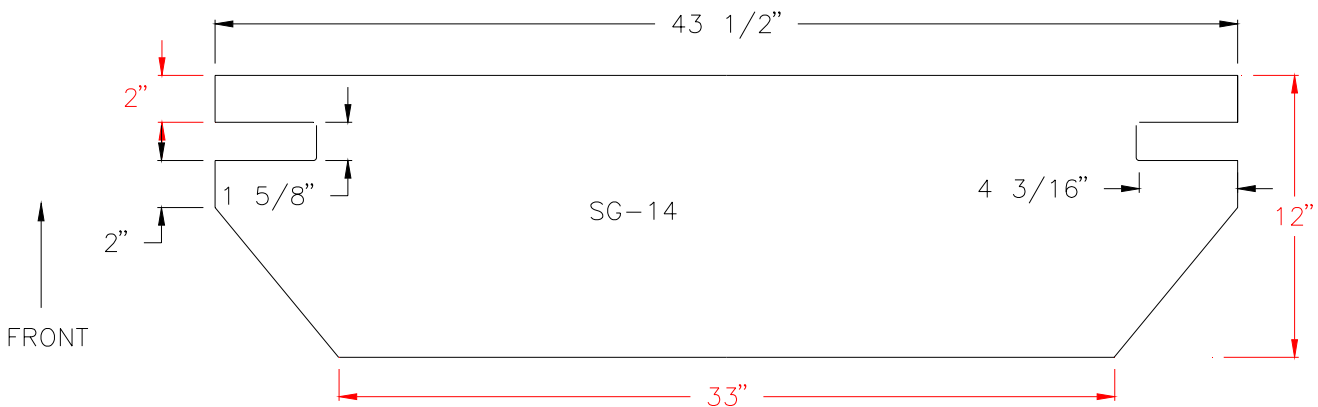

Figure 14.1.8
19) Take the other SG-13 plate (  $43 \frac{3}{4}$ " x  $12$ " x  $.063$ " ) and cut it to the same dimensions as Figure 14.1.8. This piece now becomes SG-14.